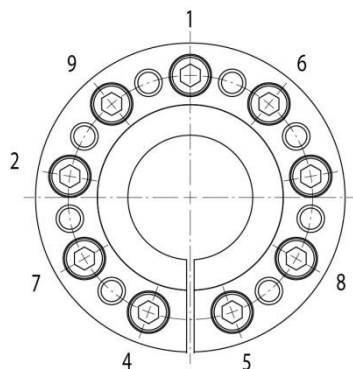

Figure 5
6. Use a (manual) Allen key in the order as displayed in Figure 5. Tighten the cylinder screws (5) in small steps until uniform tension is established.